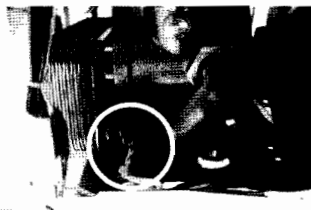

Figure 27
- ☐ The domestic hot water sensor is located on the left side of the hydraulic block's hot water side. (*figure 27*)